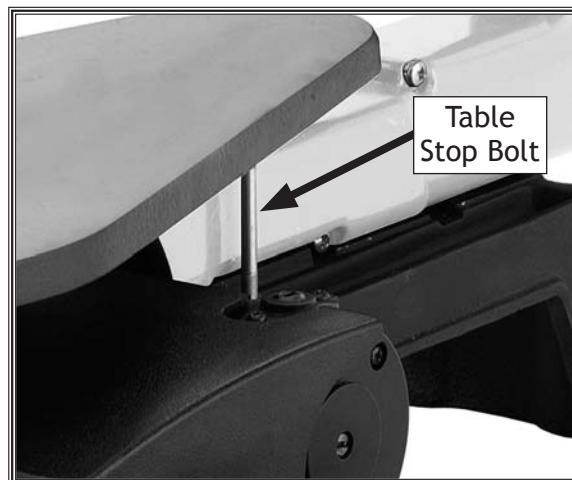

Figure 10. Table stop bolt.
2. Loosen the jam nut on the table stop bolt shown in **Figure 10**, then thread the stop bolt in so that it will not interfere with the table adjustment.